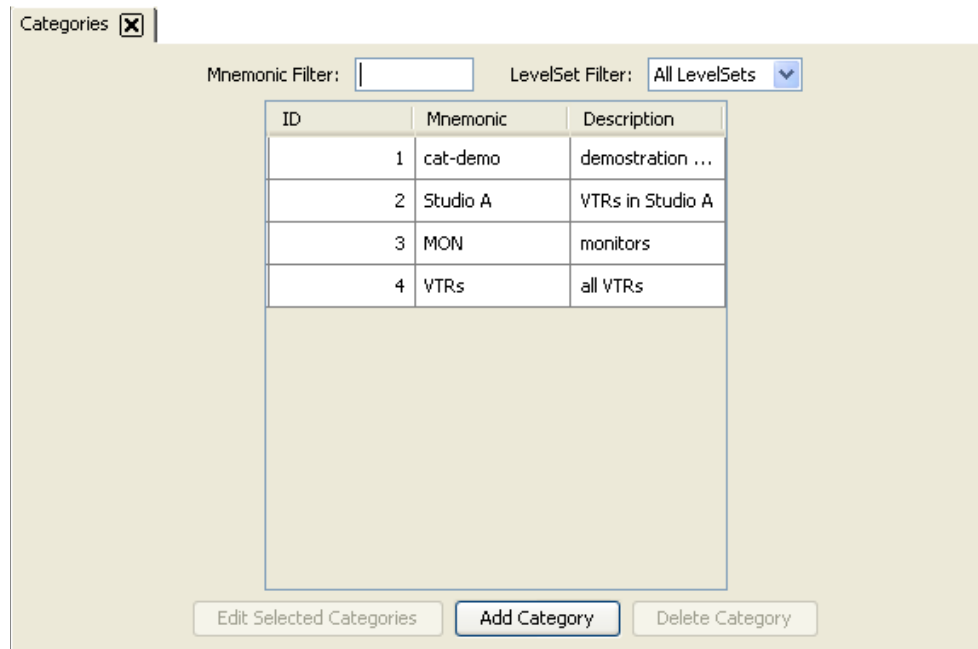

Figure 10-33. Categories Page
- 2 From the Navigation area, select the 'Configuration' pane and then 'Categories'. The 'Categories' page displays, as shown in Figure 10-33.